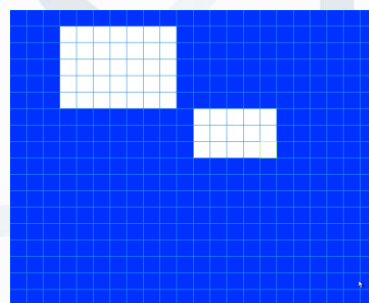

Figure 4-25
- **Region:** Click select button, the interface is shown as in Figure 4-25. Here you can set motion detection zone. There are 396(PAL)/330(NTSC) small zones. Blue zone is the motion detection zone. White zone is the disarmed zone. System can only detect motion detect signal from the arm region. You can click Fn button to switch between the arm mode and disarm mode. In arm mode, you can click the direction buttons to move the green rectangle to set the motion detection zone. After you completed the setup, please click ENTER button to exit current setup. Do remember click save button to save current setup. If you click ESC button to exit the region setup interface system will not save your zone setup.
In Figure 4-25, you can left click mouse and then drag it to set a region for motion detection. Click Fn to switch between arm/withdraw motion detection. After setting, click enter button to exit.